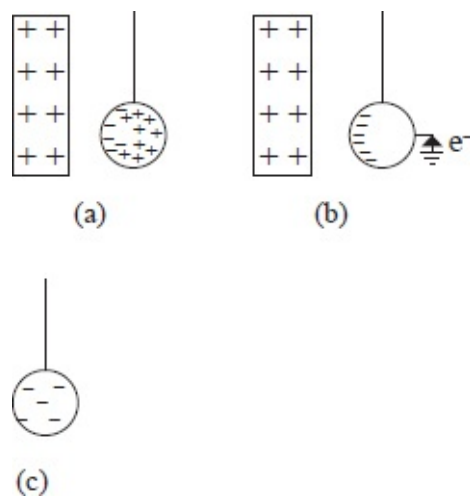

Fig. 9.5: Charging by induction
- Bring a charged glass rod close to, but not touching the suspended ball, as shown in figure 9.5 (a).
- Touch the side of the ball away from the glass rod with a finger, as shown in figure 9.5 (b).
- While holding the glass rod near the ball, withdraw the finger and then the glass rod, see figure 9.5 (c).